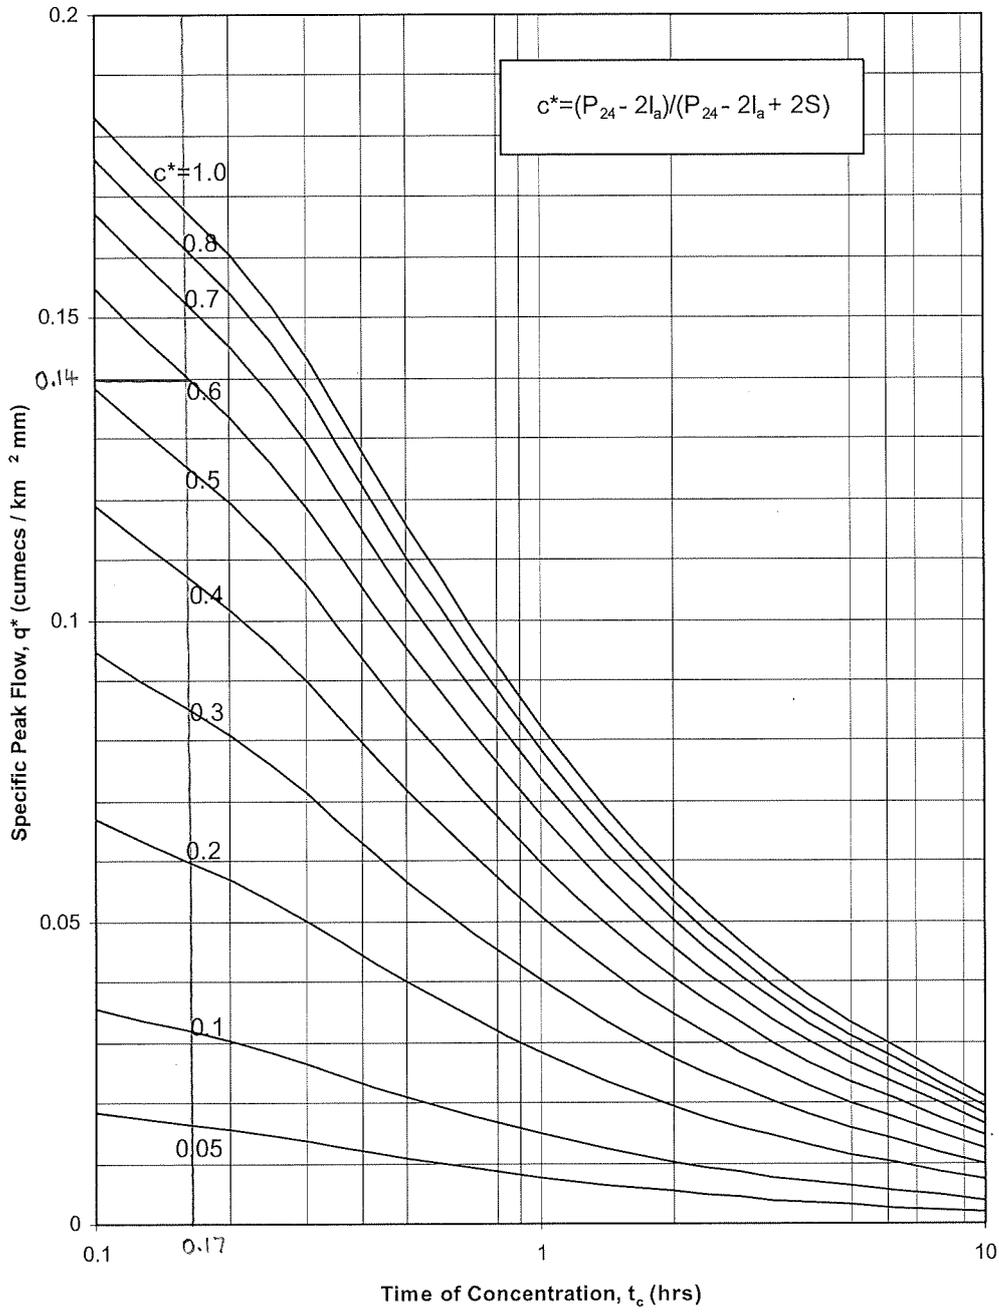

Figure 5.1 - Specific Peak Flow Rate
5. Specific Flow Rate q*	Using TP108 Figure 5.1